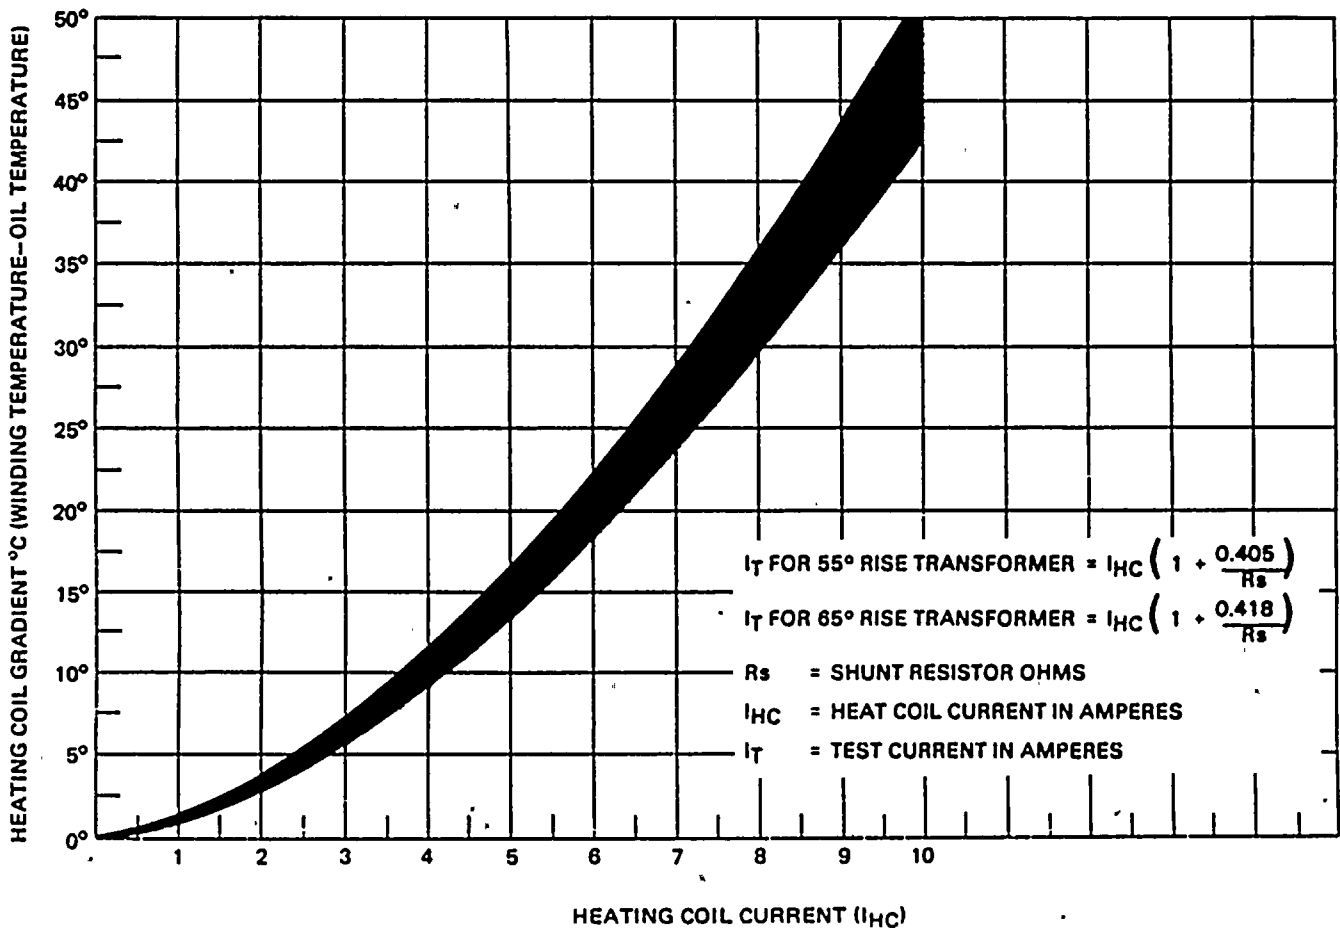

Figure 8.
- Figure 8 shows the heating coil gradient curve and formulas used to determine the test currents required to obtain the corresponding heating coil currents. Consult the certified test sheets to determine the value of shunt resistor (R).
- Using the appropriate formula from Figure 8, select at least two test currents and circulate the calculated test currents in the heating coil circuit until the heating coil temperature is constant (45 to 60 minutes). The heating coil gradient can be determined by subtracting the oil temperature reading from the hot spot reading. (Thermom-